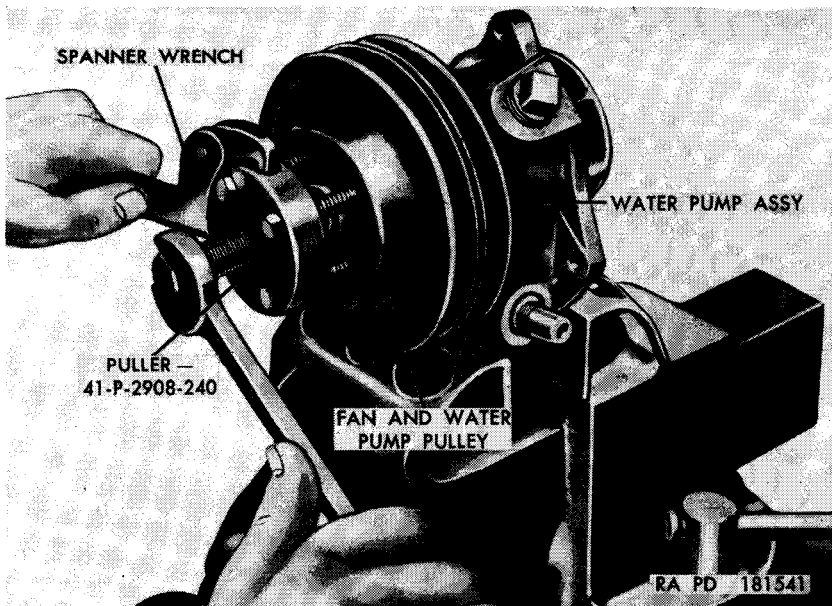

Figure 43. Removing fan and water pump pulley.
- (7) Clamp the water pump in a vise with soft jaws. Install a water pump pulley puller 41-P-2908-240 (fig. 43) on water pump pulley. Hold puller with wrench and turn puller screw to remove pulley.